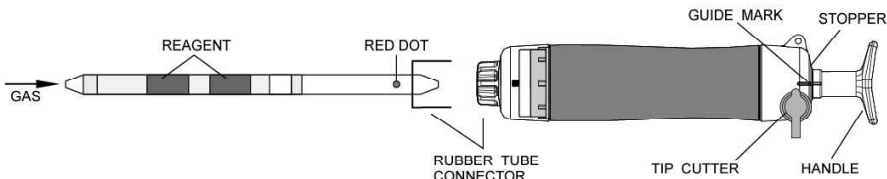

Fig.1
- ② Insert the detector tube into aspirating pump securely as shown in Fig.1. (Red dot shall point to the pump.)
- ③ Align the guide marks on the shaft and stopper of the aspirating pump.
- ④ Pull the pump handle at full stroke locked position and wait for 2 minutes or until the completion of sampling is confirmed with the flow indicator of the pump (See descriptions about the flow indicator in the instruction manual of the pump).
- ⑤ On the completion of sampling, remove the detector tube from the rubber tube connector and compare the discolouration of reagent in the detector tube with the colour standard chart attached to obtain the concentration.
- ⑥ In case of 5 pump strokes (500 mL), without removing the detector tube from the pump inlet after the aforesaid step ④, turn the pump handle right or left by 1/4 (90°), push it toward the pump, turn it right or left by 1/4 (90°) and repeat the aforesaid steps ③ to ④ another 4 times.
- ⑦ On completion of sampling, remove the detector tube from the rubber tube connector and compare the discolouration of reagent in the detector tube with the colour standard chart attached to obtain the concentration.